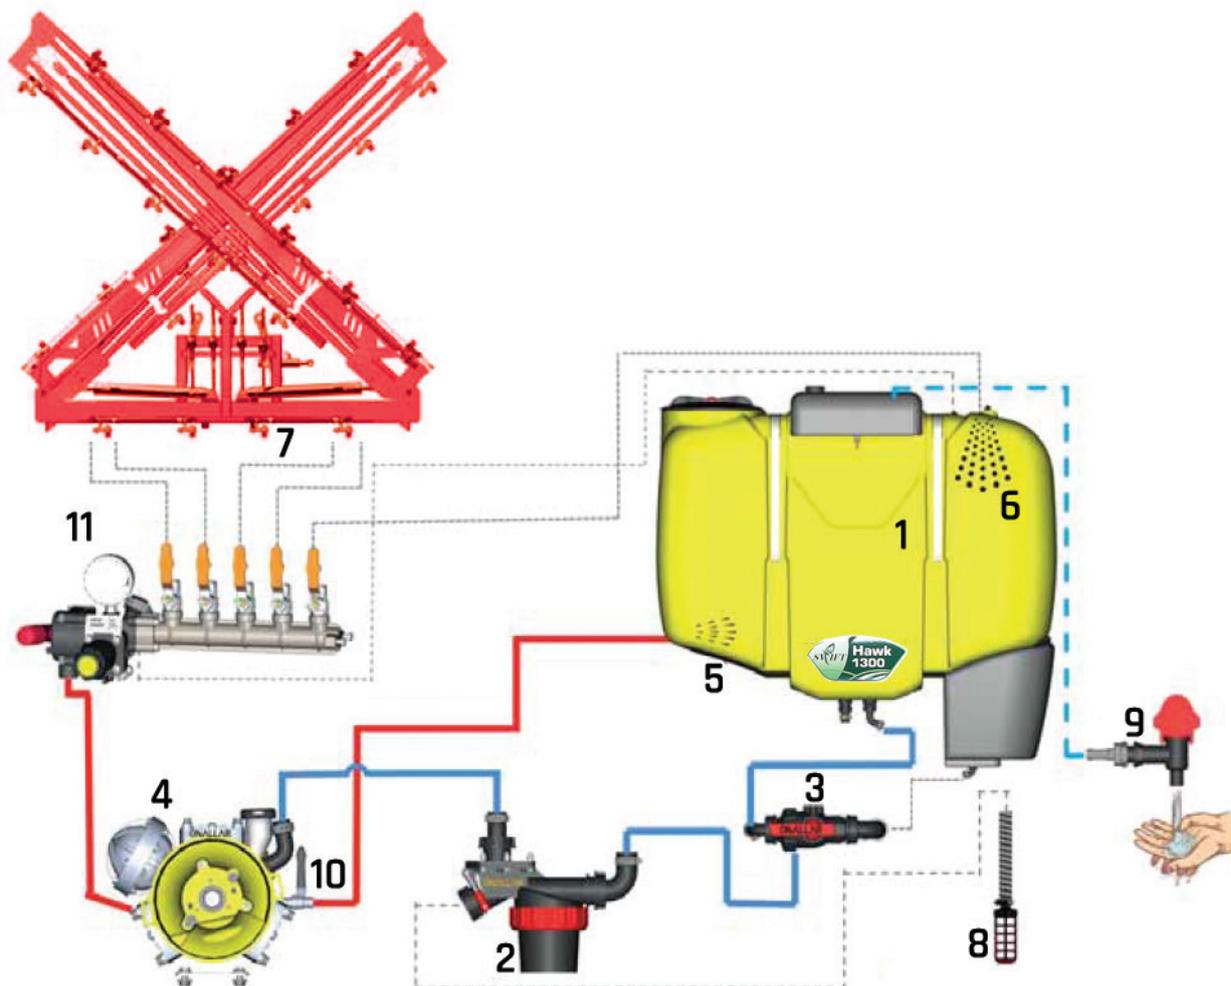

Figure 36 OSR Regulator
6. To adjust the speed of the hydraulic mixer change the pressure setting of your regulator. (Figure 36).